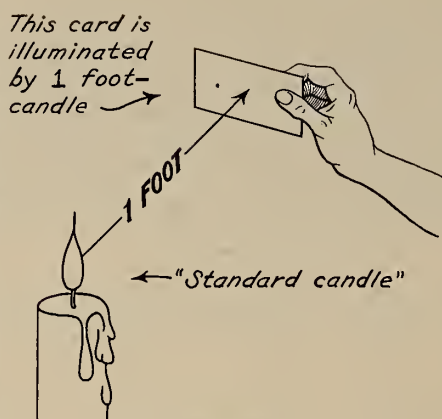

FIGURE 3
FIG. 3. (A) Correction plate for a Schmidt optical system. (B) A flat-spherical lens with which the correction plate is often combined. (C) The shape that the correction plate assumes when combined with B. The thickness of the plate is strongly exaggerated in this illustration.